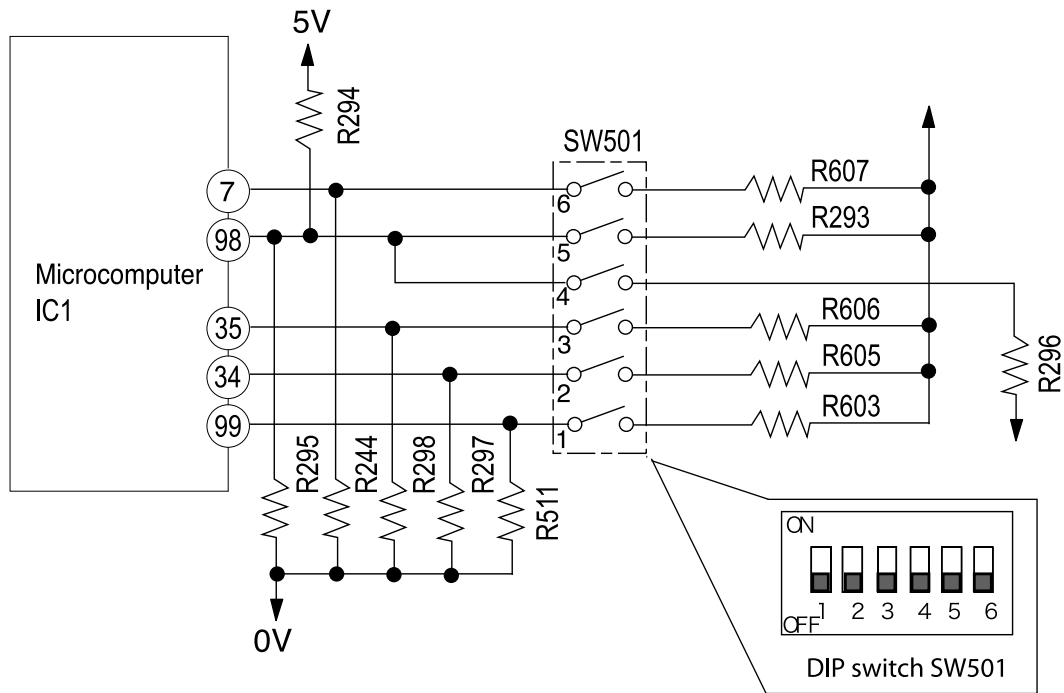

Fig. 11-1
- Fig.11-1 shows the dip switch circuit. The table shown in Fig.11-2 are function and setting position from ① - ⑥ of the switch number.